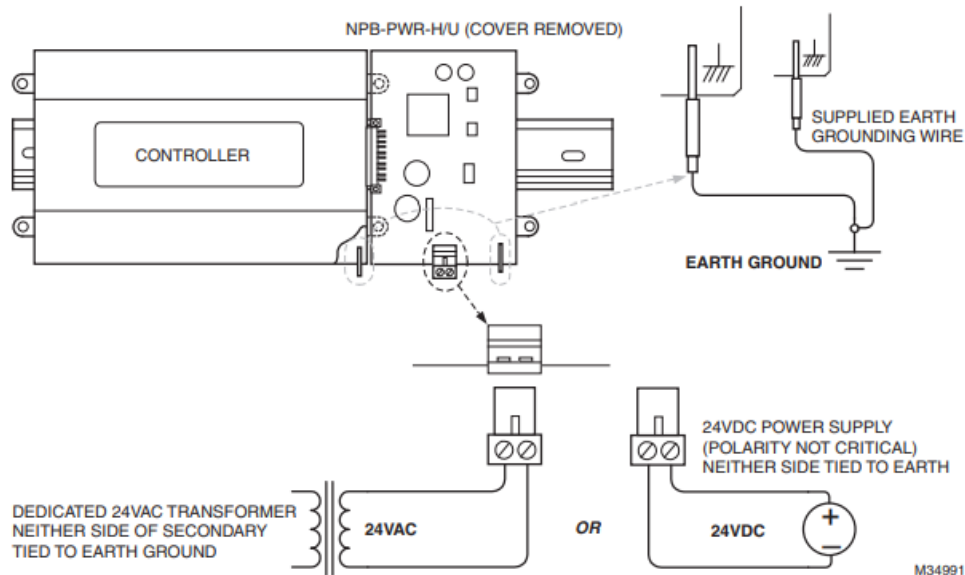

Fig. 4. NPB-PWR-H/U module wiring connections.
- An earth ground spade lug (0.187”) is provided on the controller base for connection to earth ground. For maximum protection from electrostatic discharge or other forms of EMI, connect the supplied earth grounding wire to this lug and a nearby earth ground. Keep this wire as short as possible, see Fig. 4 on page 8.
- Located at the bottom of the NPB-PWR-H/U module is a 2-position power connector, and an earth ground spade lug, as shown in Fig. 4.